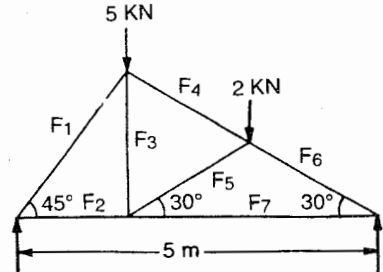

Fig. 14.28
9. Find the nature and magnitude of the forces in the frame shown in figure 14.28